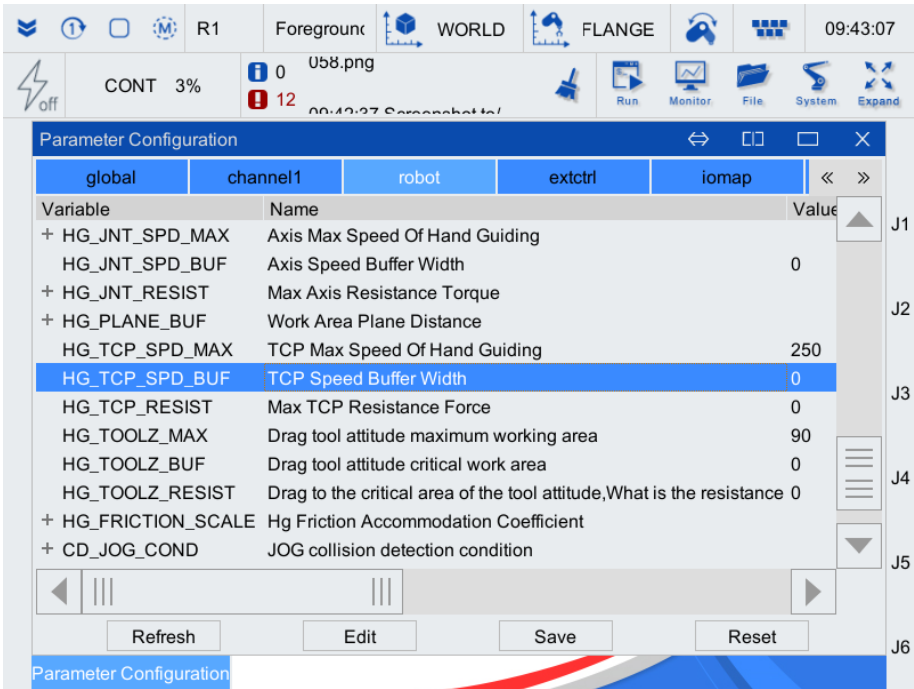

Figure 5-45 Parameter configuration interface
Step3. Enter the parameter configuration interface, select the [robot] tab, as shown in Figure 5-45, click and select the row where the [HG_TCP_SPD_BUFF] parameter is located, and click <Edit>.